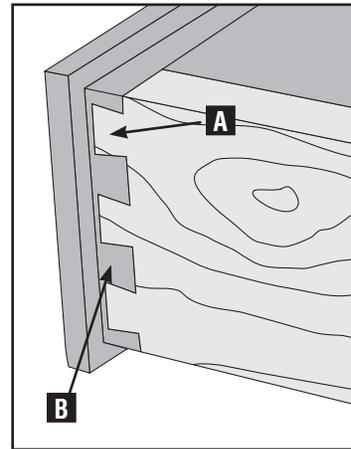

Fig. 25
Tails (A) Fig. 25 are cut into the sides of the drawers, while pins (B) are cut into the fronts and backs of drawers.